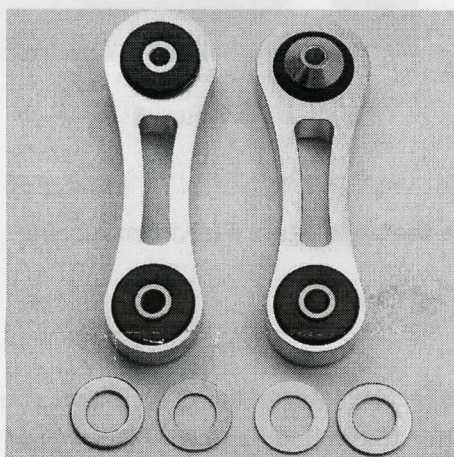

Figure 1
Your Granatelli Integral links should have come with (2) 1.75 diameter flat washers tied to each lower bolt hole of the new Integral Link (See figure 1). Remove the plastic tie and liberally lube both the upper and lower bushing surfaces as well as both sides of each flat washer.